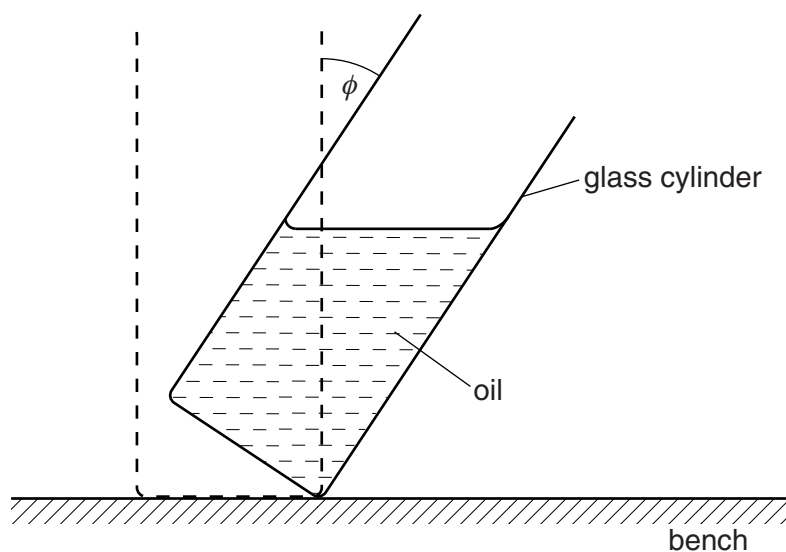

Fig. 1.1
- 1 A student is investigating the angle at which a glass cylinder containing oil topples, as shown in Fig. 1.1.